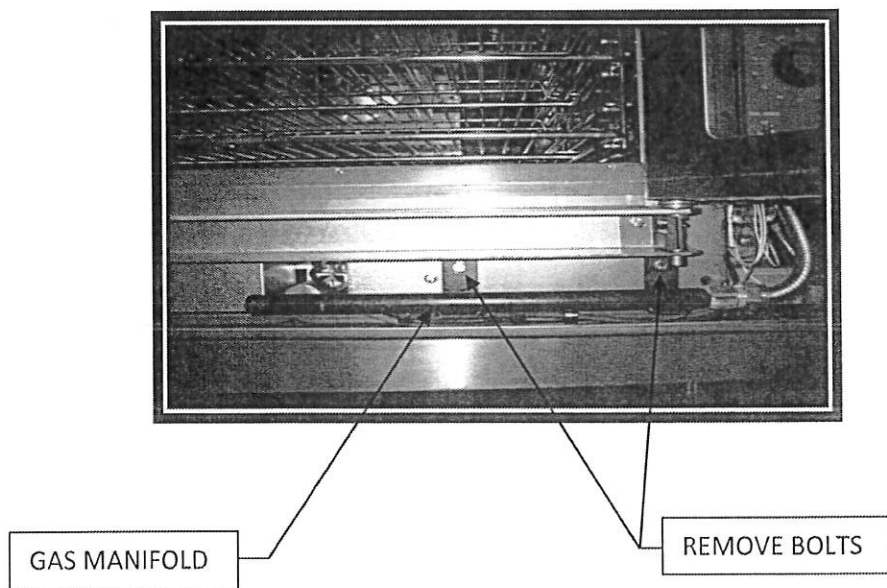

FIGURE 2
2. REMOVE BOLTS HOLDING MANIFOLD TO OVEN USING 7/16" SOCKET AND PLACE TO THE SIDE, AS SHOWN IN FIGURES 2 & 3.